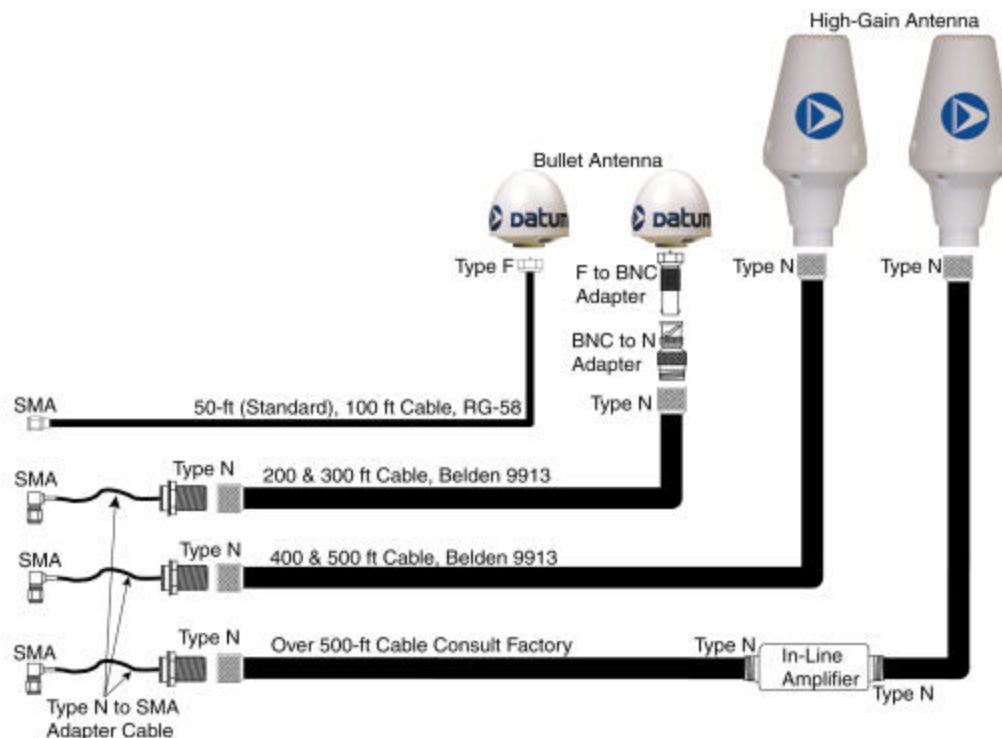

Figure 2-1 Antenna and Cable Options
- Remove and discard rubber washer from underneath the antenna terminal. Connect coaxial antenna cable directly to the bottom of the antenna, use adapter terminal for the optional Belden 9913 cables. See Figure 2-1 for typical cable connection details.